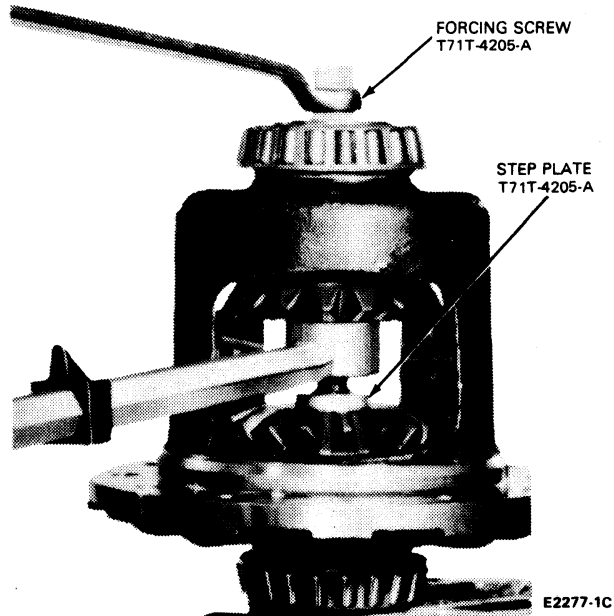

FIG. 8 Guiding Forcing Screw into Step Plate
5. Lubricate the threads of the forcing screw and thread it into the gear rotating tool. Guide the forcing screw into the step plate (Fig. 8).